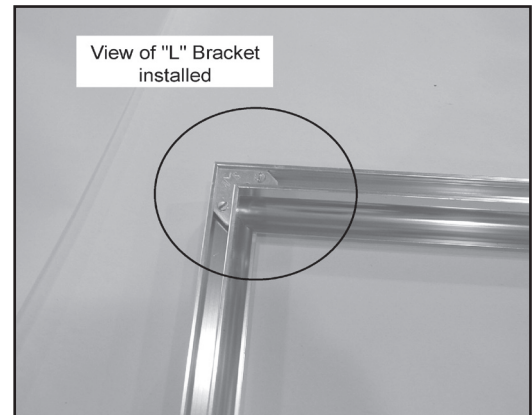

Figure 22.4
4. Connect the trim pieces together using the "L" Brackets supplied (**Figure 22.4**).